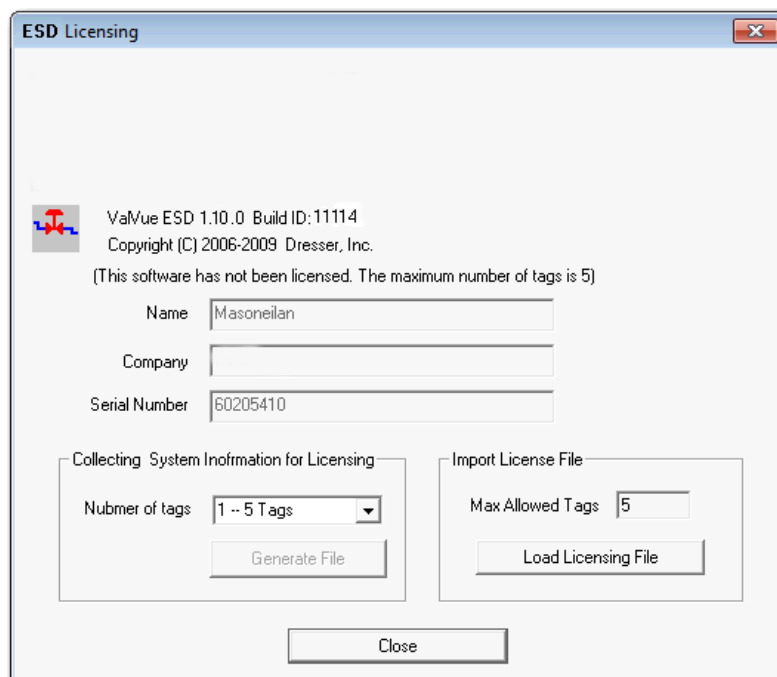

Figure 35 - Load Licensing File
1. Select **Help > Software License** and *Figure 35* appears.